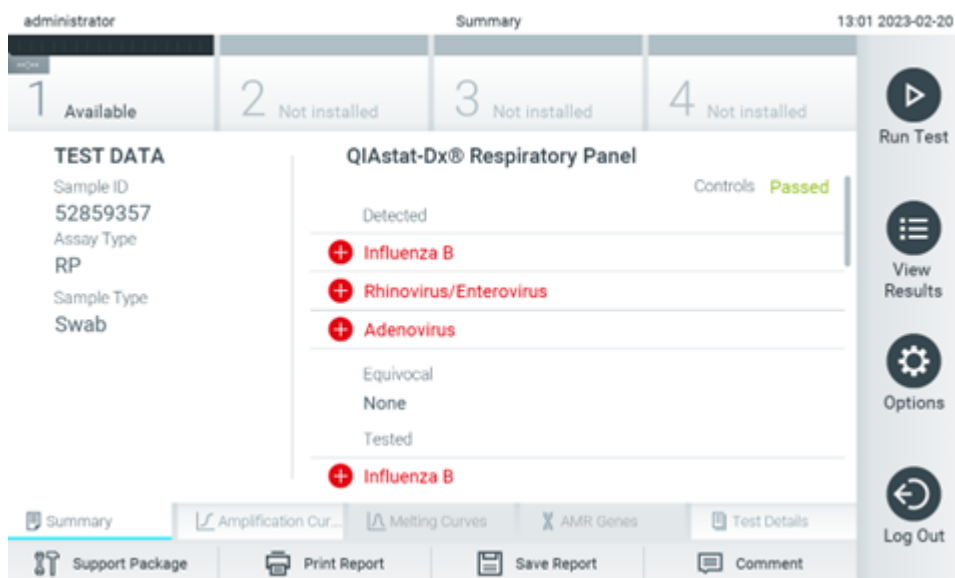

Figure 30. Results Summary screen.
11. After the QIAstat-Dx assay cartridge has been ejected, the results Summary screen will appear (Figure 30). Refer to Section 5.5 Viewing results for further details.